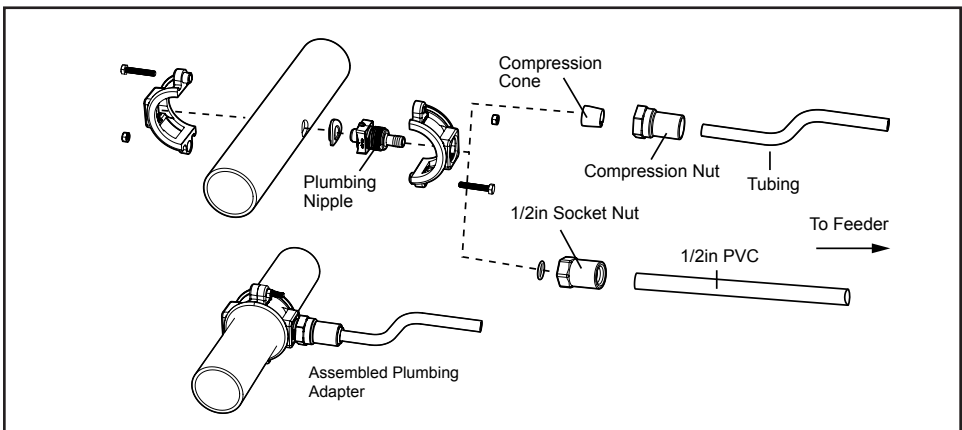

Figure 7. Connecting Hardware To Pipe
- Insert one plumbing nipple into the plumbing clamp for the inlet line. Install the clamp assembly for the inlet (line going TO feeder) and outlet (line FROM feeder) by installing the clamp assembly (Figure 7).
- Install clamp assembly over the plumbing where the $\frac{3}{4}$ " hole was drilled (Figure 7).